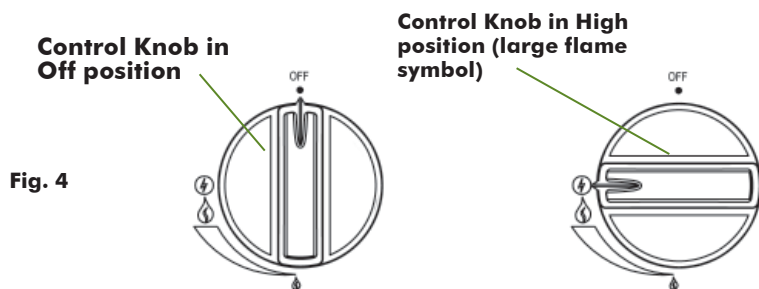

Fig. 4
2. **IMPORTANT:** Make sure Control Knobs are turned "Off." (Fig. 4)
4. Push far left Main Burner Control Knob in on Control Panel and turn counterclockwise to the High position. (Figs. 4 and 6)
2. **IMPORTANT:** Make sure Control Knobs are turned "Off." (Fig. 4 - P.27)
2. **IMPORTANT:** Make sure the Side Burner Control Knob is turned "Off" first. (Fig. 4 - P.27)
4. Push Side Burner Control Knob in and turn counterclockwise to the High position. (Fig. 4 - P.27)